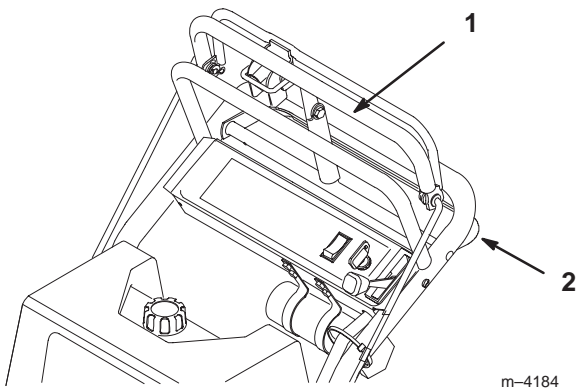

Figure 18
3. Slowly press on the upper control bar to move forward (Fig. 18).
To go straight, apply equal pressure to both ends of the upper control bar (Fig. 18).
To turn, release pressure on the upper control bar side away from the direction you want to turn (Fig. 18).
3. Slowly squeeze the lower control bar and handle together to move rearward (Fig. 18).